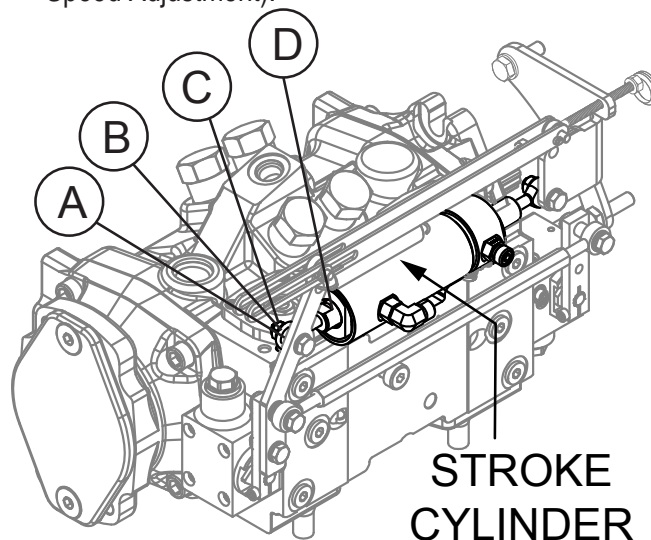

Figure 32. Zero Stroke Position Adjustment
4. Ensure blades are not rotating. If rotating, continue to next step and adjust per instructions. Otherwise, set trowel on ground and verify jam nut (Item D, Figure 32) is tight then continue to next section (Right Side Trowel Speed Adjustment).
6. Loosen jam nut (Item D, Figure 32).
7. Remove retaining screw (Item C, Figure 32). The spacer (Item A, Figure 32) will also come off.
8. Turn rod end (Item B, Figure 32) in, shortening overall length of cylinder assembly.
9. Reinstall retaining screw (Item C, Figure 32) and spacer (Item A, Figure 32). Apply blue loctite to make sure screw will not come off.
10. Tighten jam nut (Item D, Figure 32).